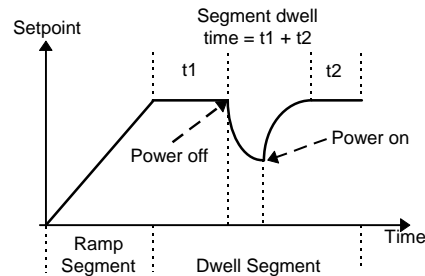
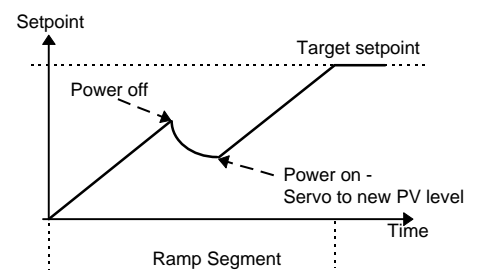

Figure 5-2 Continue after a power fail
Figure 5-3 Ramp back after a power fail
**If 'rmp.b' is selected**, then when power is restored the setpoint starts at ('serves to') the current measured value, and then ramps to the target setpoint of the active segment at the last ramp rate used by the program. This strategy provides a smoother recovery. The two diagrams below illustrate the respective responses, Fig5-2 if power fails during a dwell segment and Fig5-3 if it fails during a ramp segment.